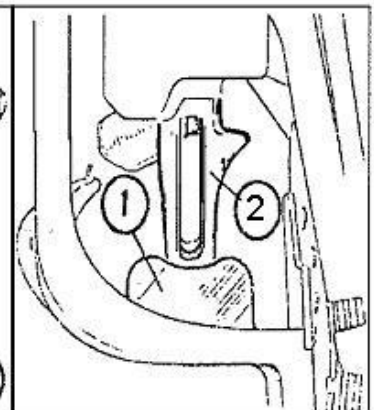

Fig. 20
Being the needle arm in idle, during the raising movement of the needle, the minimum distance between the tip of the twine guide cam and the inner side of the needle must be 2÷3 mm (fig.20 bis/A).
1. the ejector tongue (no.1 Fig. 20) in its movement must rub with light pressure on the back of the knotter hook (no. 2 Fig. 20).
Fig. 20 bis